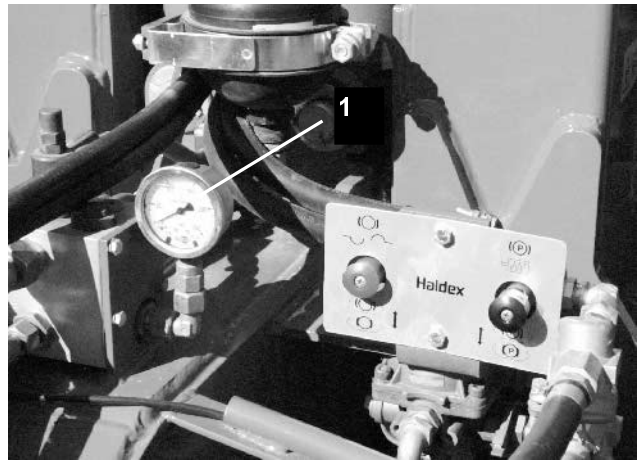

Fig. 36
- The pressure gauge (Fig. 36/1) indicates the pressure of the rams.